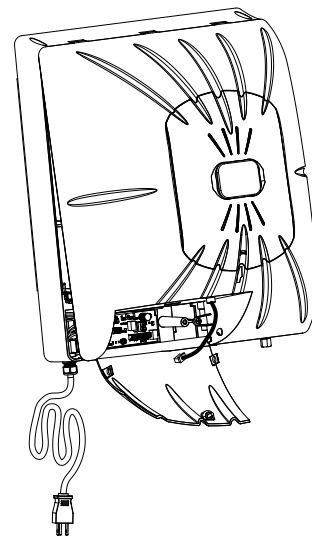

Figure 13
7. Lift the entire dome from the base of the unit by pulling the bottom of the dome away from the base and then lifting it off of the base. See Figure 13. If you disconnected the motor leads correctly, the motor dome should be free from the base and you can remove it completely. Do not hang the dome from the motor wires as damage can result.